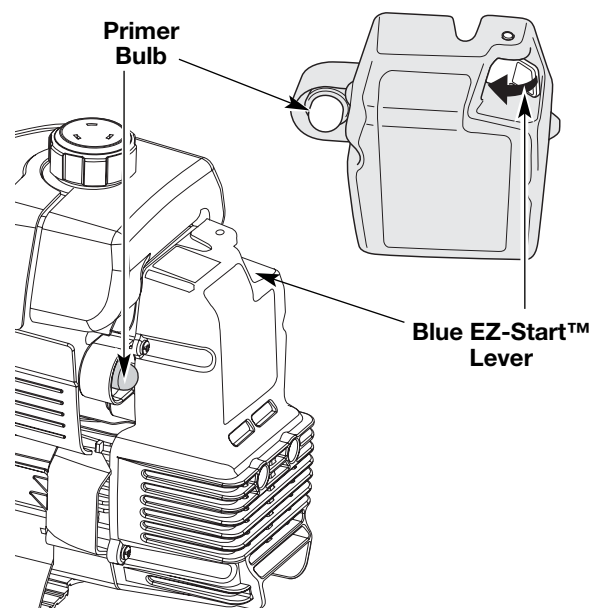

Fig. 7
3. Fully press and release the primer bulb 10 times, slowly. Some amount of **fuel should be visible in the primer bulb** and fuel lines (Fig. 7). If you can't see fuel in the bulb, press and release the bulb as many times as it takes before you can see fuel in it.
4. **Push the blue EZ-Start™ Lever towards the primer bulb** until it clicks and locks into place (Fig. 7).